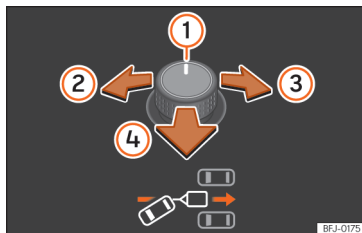
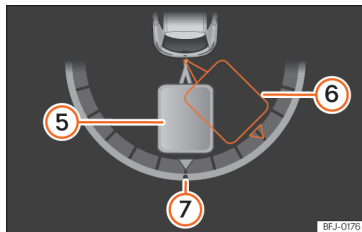

Fig. 152 Outside rearview mirror rotary control: adjust the trailer angle.
Fig. 153 Instrument cluster display: engage reverse.
Key to the >>> **Fig. 152** , >>> **Fig. 153**:
- Tilt the rotary control until the desired direction is reached >>> **Fig. 152**. A representation of the tow vehicle and trailer set is shown on the instrument cluster screen for guidance purposes >>> **Fig. 153**.